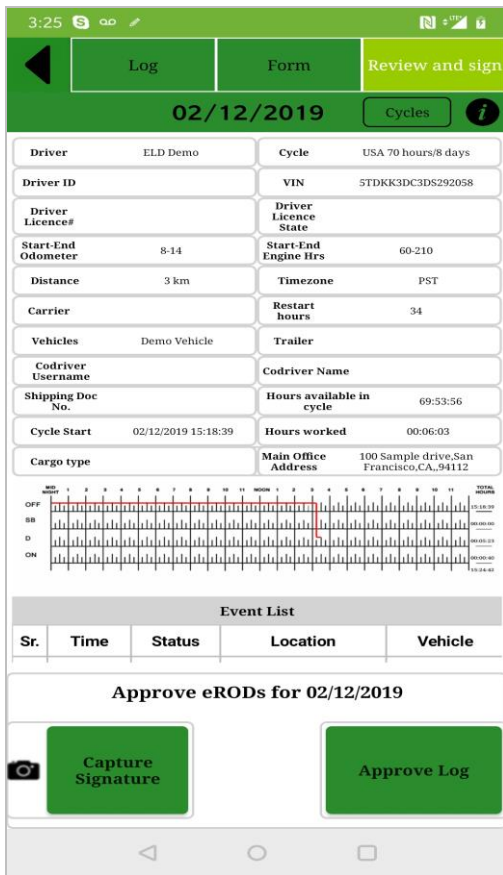

Figure 13.1 – Review & sign screen
- Select Approve Log to sign the log for the selected date (figure 13.1).